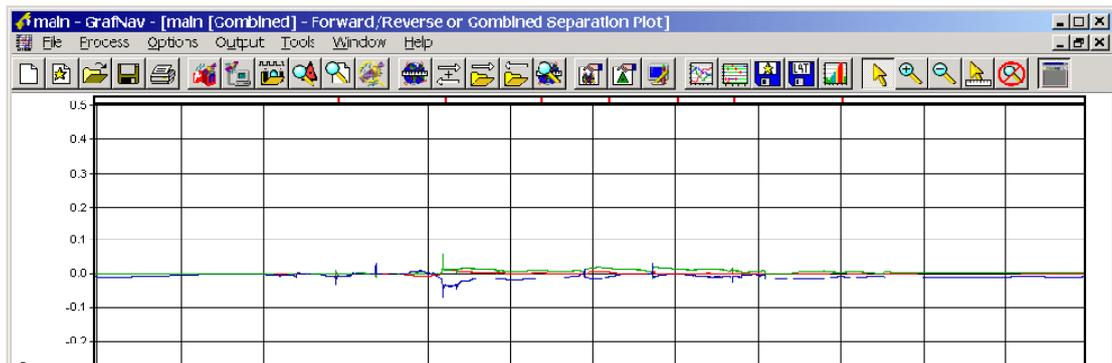

Figure 10: Combined Separation Plot
- *Combined Separation Plot*: This plot shows the difference between the forward and reverse solutions (Figure 10). A perfect solution would have a separation of zero as this indicated the carrier phase ambiguities have been determined to be exactly the same value in both directions. A separation of better than 0.1m on a quad-bike survey would indicate that the data is of high quality.